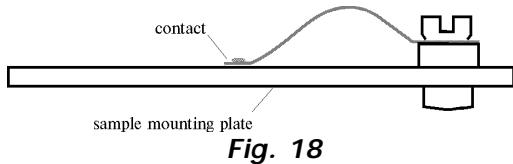

Fig. 18
- a) with bias voltage contact strip for STM-study of thick samples (Fig. 18),